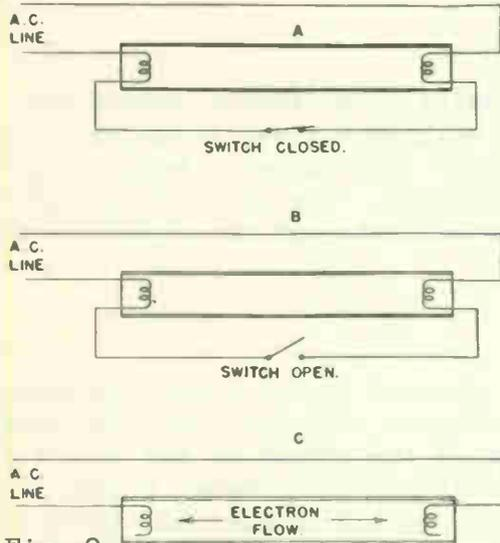

Fig. 2 Fundamental Operating Principle of Fluorescent Lamps.
## D. Fluorescent Lamp Operation, Fig. 2.
The basic principles of fluorescent lamp operation are shown in Fig. 2, where we have two filaments connected together on one side through a switch and on the other side to the alternating current supply line.
1. See diagram A Fig. 2 in which the switch is closed. Line current flows through the filaments and switch in series, preheating the filaments so they will emit electrons and vaporize the mercury.